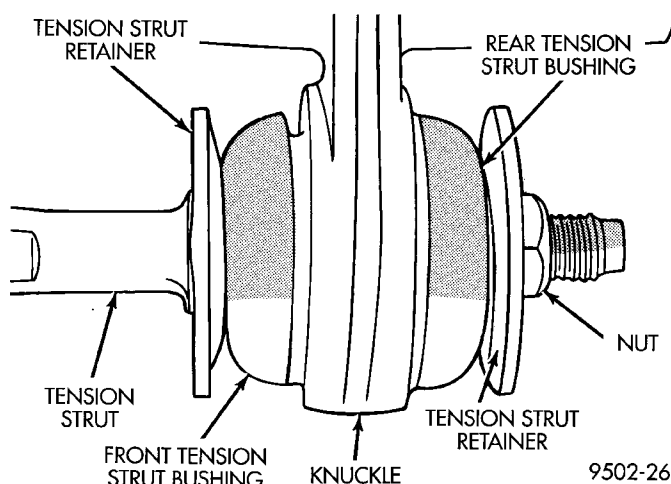

Fig. 19 Tension Strut Bushings Installed On Tension Strut
(4) Install tension strut bushing, tension strut retainer and nut on tension strut (Fig. 19). **When installing tension strut retainers, the retainers must be installed on tension strut, with cupped side of retainer facing away from bushing and knuckle (Fig. 19).**